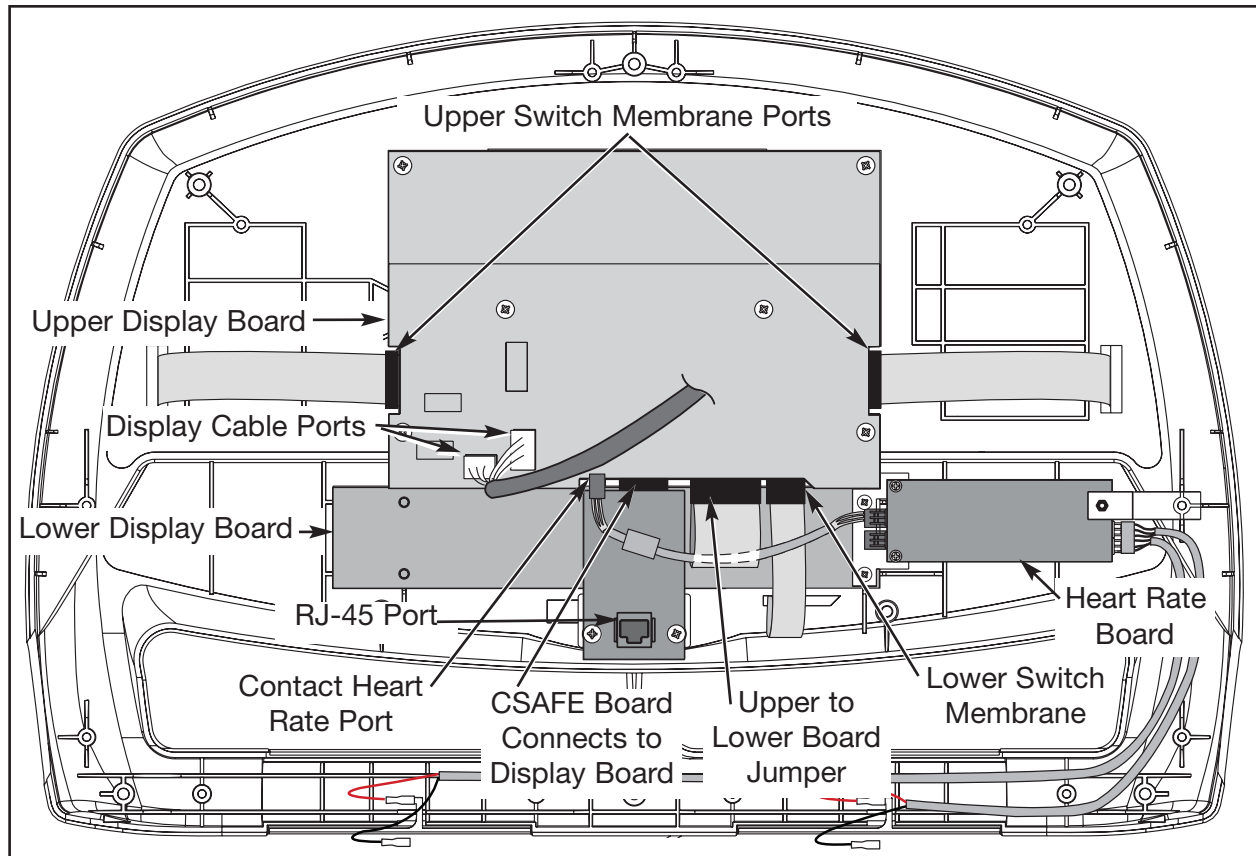

Figure 25 **NOTE:** This figure does not show handrails or lower console back.
- A. Disconnect these cables from the display board: the display cable (2 connectors); the two upper switch membrane connectors; the lower switch membrane connector; the contact heart rate cable and the upper to lower board jumper. See Figure 25.
- A.** Connect these cables into the display board: the display cable (2 connectors); the two upper switch membrane connectors; the lower switch membrane connector; the contact heart rate cable and the upper to lower board jumper. See Figure 25.
- B. Gently pull the CSAFE board down to disconnect it from the display board. See Figure 25.